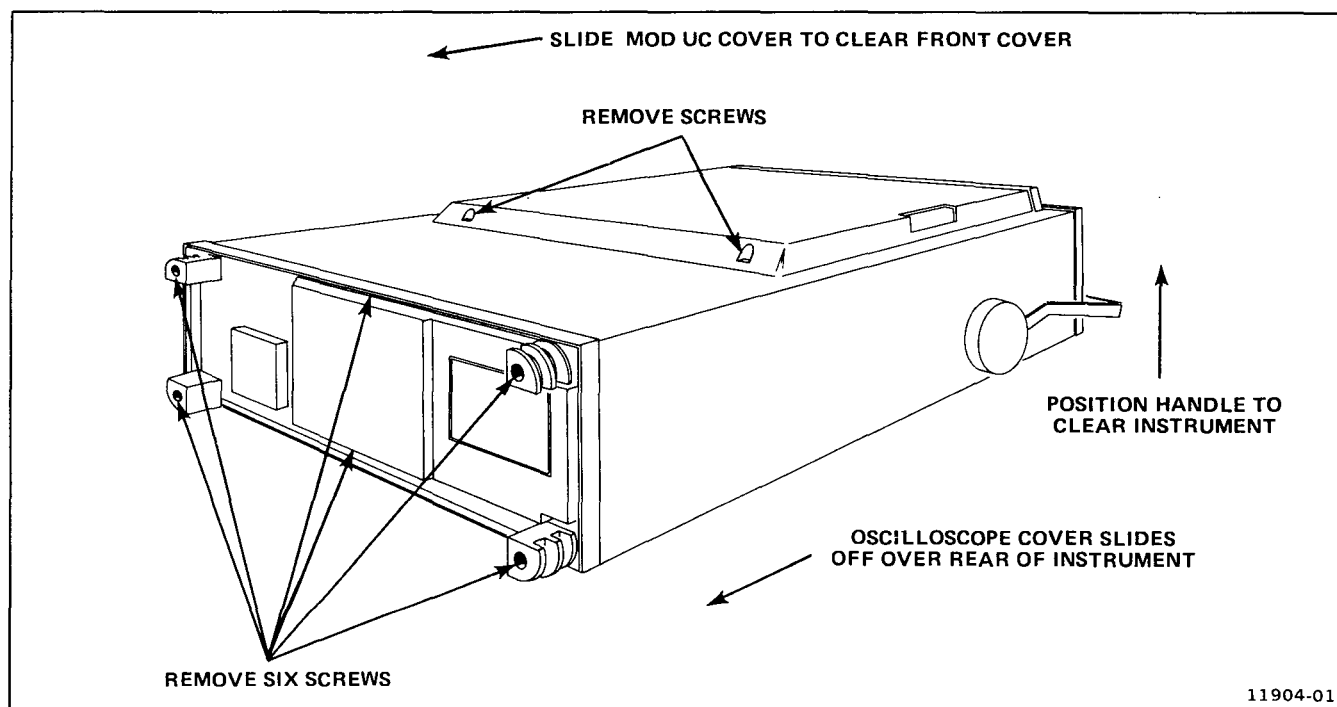

Figure 16. 465 Mod UC cover removal.
2. Remove two screws from the Mod UC cover (see Figure 16).
4. Loosen the six screws, indicated in Figure 16, enough to release the rear ring. Remove the rear ring with feet and screws from the instrument as an intact assembly.